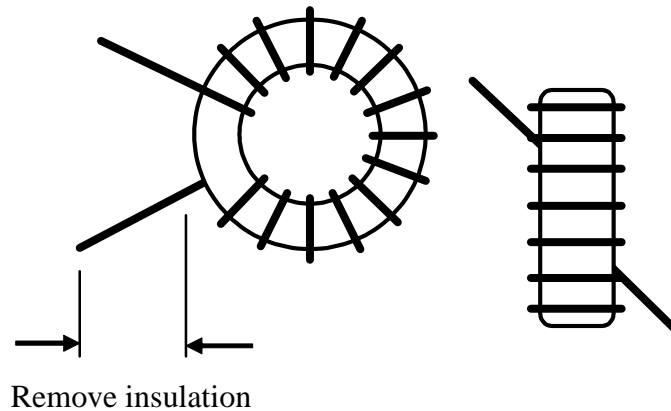

Figure 6-15
- Find RFC14's component outline on the RF board, near the front left-hand corner. Compare this component outline to Figure 6-15, which shows two views of a typical toroidal inductor. RFC14 will be mounted vertically as shown at the right side of the drawing, with one wire exiting at the core's upper left, and the other at the lower right. There are pads on the PC board in these two locations.
- To wind RFC14, cut a 9" (23 cm) length of #26 red enamel-coated wire, then "sew" the long end of the wire through the core exactly 10 times. *Each pass through the core counts as one turn.* The finished winding should look very similar to Figure 6-15, but with 10 turns rather than 14.
- Strip and tin the leads of the toroid before you mount it on the board. As shown in Figure 6-15, you should remove the enamel from the leads up to about 1/8" (3 mm) from the core. You should see only bare wire (no insulation) on the side to be soldered.
Wind the first winding, 1-2, using 16 turns of red enamel wire (15", 38 cm). This winding must occupy 85% of the core, and will look very similar to Figure 6-15. Remember that each pass *through* the core counts as one turn.